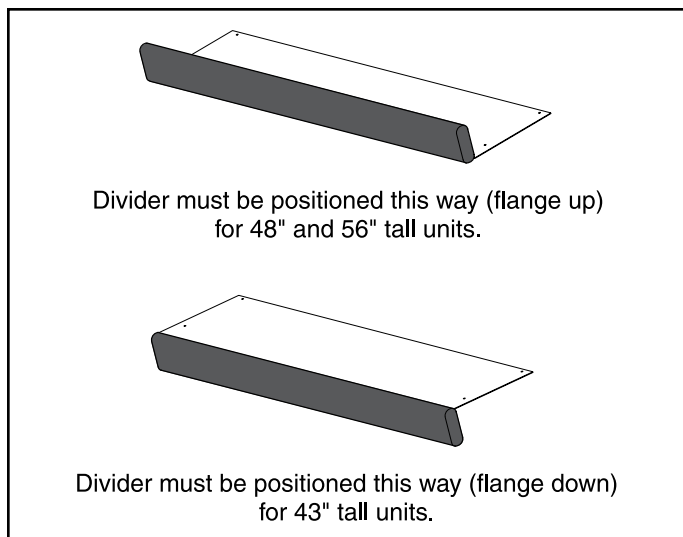

Figure 3. Positioning Divider Panel
2. Verify divider panel is positioned properly. Figure 3 shows the correct position for 48" and 56" tall units (flange pointing up). For 43" tall units, the divider panel should be positioned so the flange points down.